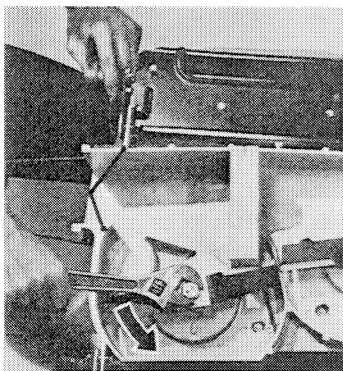

FIGURE 21A
3. Position wood block and remove nuts as shown in Figures 21A and 21B. (If square blade spacer turns with nut, place a second wrench on spacer to keep shaft from turning).